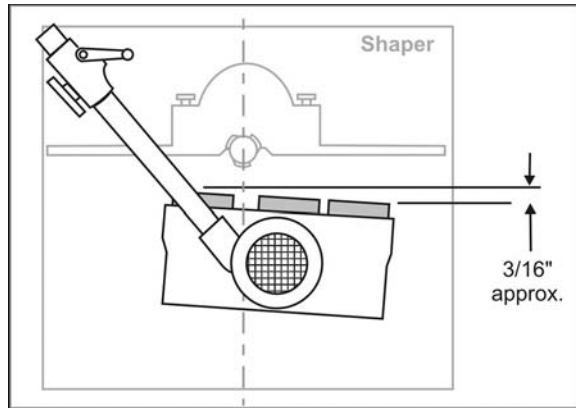

Figure 18
- To ensure that the workpiece is held firmly against the fence, set the stock feeder at a slight angle toward the fence in the direction of feed. In other words, the outfeed roller should be approximately $3/16''$ (5mm) closer to the fence than the infeed roller. See Figure 18.